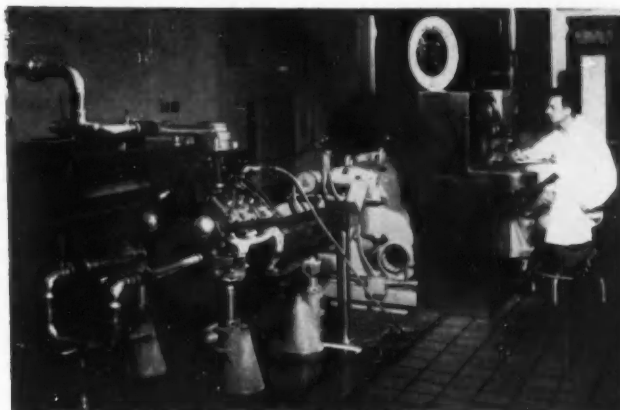

Fig. 10—General room arrangement of the 26 standard performance rooms in the laboratory
1. 26 standard performance rooms. ( See Fig. 10.)